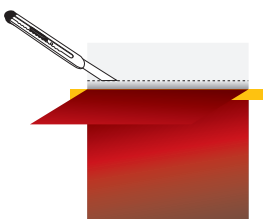

Figure 03
► Retirer 10 cm de liner. (FIG. 03)